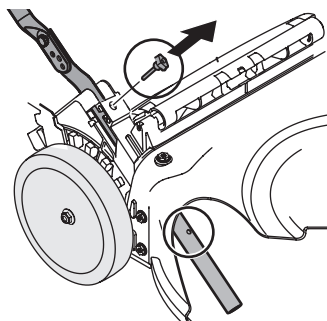
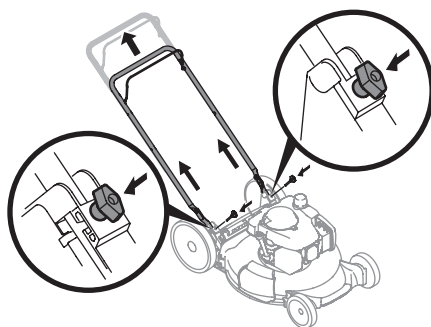

Figure 3
Figure 4
4. Remove T-bolts from the handle brackets (Figure 3).
5. Pull upward on the handle (Figure 4) until holes in lower handle line up with holes in handle brackets (Figure 3 deck cutaway).
6. Insert the T-bolts removed in STEP 4 through the handle brackets and lower handle (Figure 4) and tighten securely to secure the handle in place.